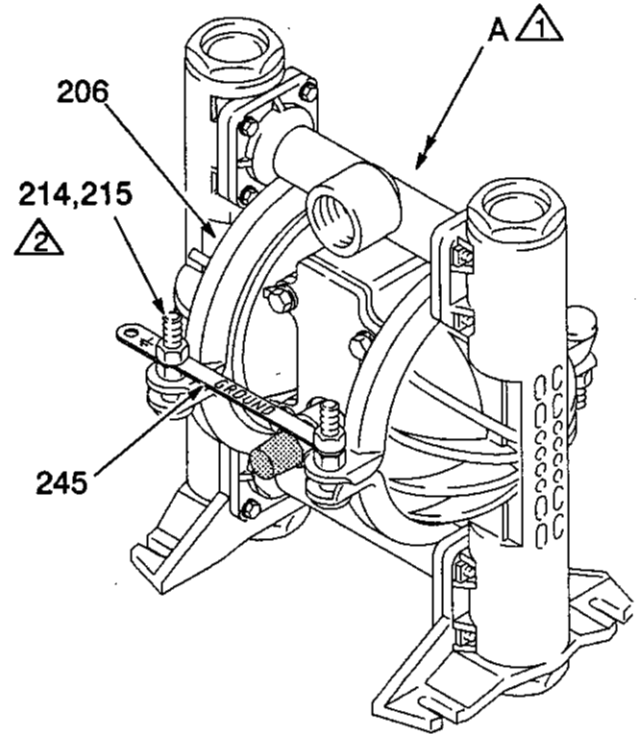

Fig 11-1
After every 500 hours of fluid pumped, remove the hose from the pump air inlet (A) and add two drops of machine oil or spray some WD-40 into the air inlet. Refer to Fig 11-1.
When tightening the clamps (206), remove the grounding strip (245) and tighten the screws (214) and nuts (215) on both sides. Torque the screws to 72-120 in-lb (8-14 N.m). Reinstall the grounding strip. See Fig 11-1.